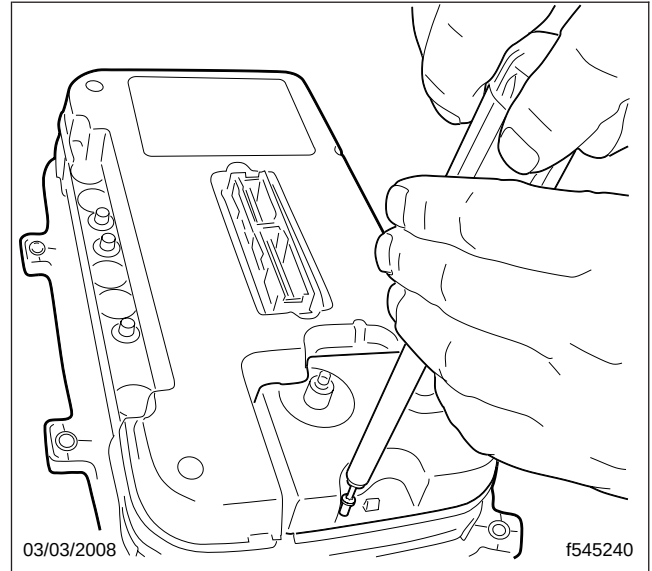

Fig. 1, Removing the Mounting Screws
4. Separate the air gauge module slightly from the ICU to allow access to the electrical ribbon that connects the module to the ICU. See Fig. 1.